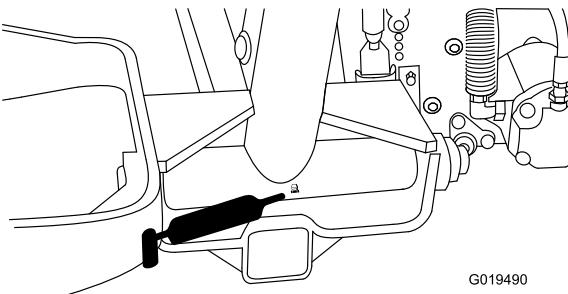

Figure 40
- Lift arm pivot (3) (Figure 40)